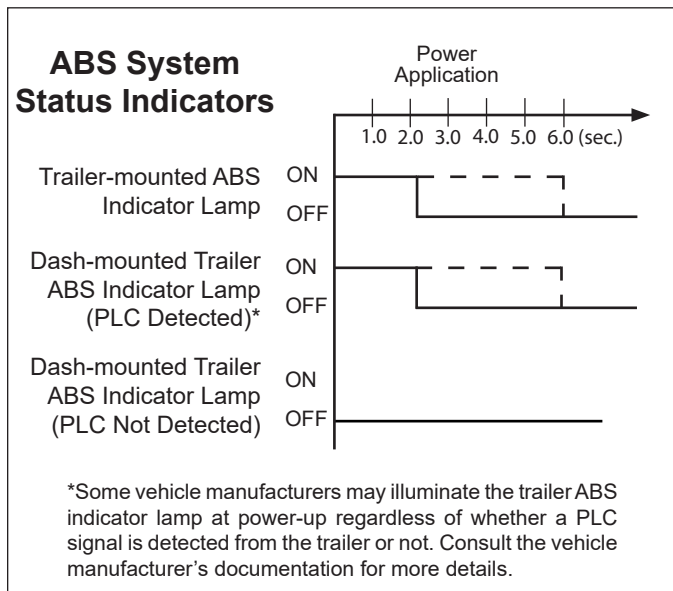

Figure 9 – Trailer ABS Lamp Power-Up Sequence
At power-up, with no active Diagnostic Trouble Codes (DTCs), the trailer ABS indicator lamp will illuminate for approximately two (2) to six (6) seconds as a bulb check and then turn off. See *Figure 9*.